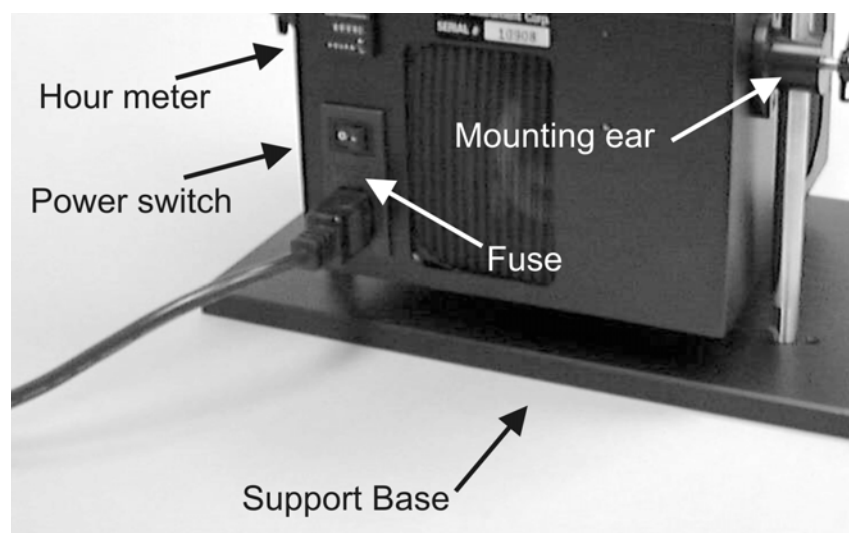
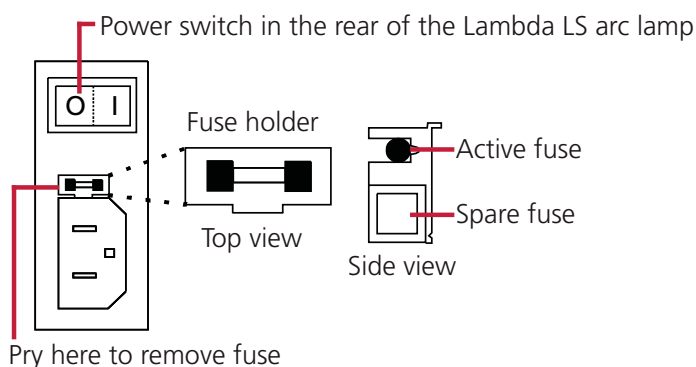

Figure 30 Lambda LS Xenon Arc Lamp back panel
Figure 31 Removing the fuse
In the event that the lamp fails to power up when the power switch is turned on check the line power fuse to see if it has blown. The fuse is located in a pry-out holder on the power entry module on the back of the lamp (Figure 30).
1. Unplug the power cord from the power entry module. This will reveal a slot just under the edge of the fuse holder (Figure 30 and Figure 31).
⚠ WARNING! You must turn off the lamp using the power switch in the rear of the unit (Figure 30) and remove the power cord. Allow the lamp to cool before attempting to replace the lamp.